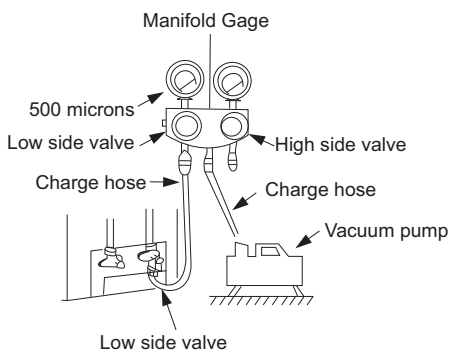

Fig. 25 – Manifold
3. Fully open the low side of manifold gage (see Fig. 25).